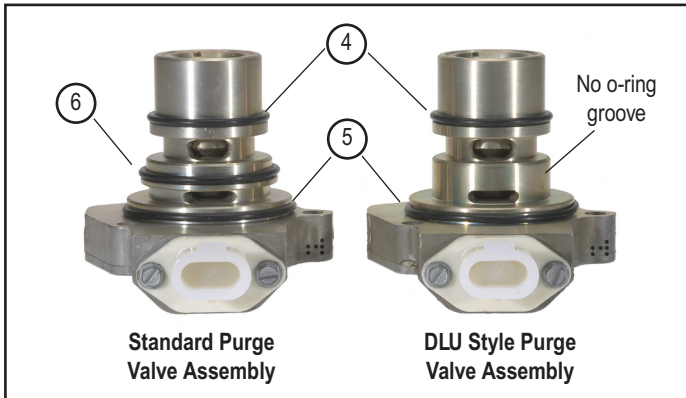

Figure 4 Standard and DLU Style Purge Valve Identification
3. Remove and discard the three 1/4" self-tapping screws(2) that secure the purge valve assembly to the end cover and the three flat washers (3), if present. Note: AD-9 air dryers with extended covers do not have flat washers (3).
4. Pull the purge valve assembly (1) out of the end cover. Discard o-rings (4, 5 and 6). O-rings (4) and/or (5) may be lodged in the end cover bores, be sure to remove these. Note: DLU style purge valves do not have an o-ring (5) or an o-ring groove in the purge valve housing. Refer to Figure 4.
5. Verify the purge valve assembly (1) contained in the kit is the same type as the one removed. See Figures 4 and 5 for types of purge valve assemblies. Once the purge valve assembly is verified, check with an authorized Bendix parts outlet for possible core value for the purge valve assembly before discarding.
o-ring grooves on the purge valve housing. Use care to not twist the o-rings. Note that DLU style purge valves do not use o-ring (6). Refer to Figure 4.
2. Lubricate the air dryer bore for the purge valve assembly (1). Important: Use only the lubricant (7) packaged with this kit.
5. Secure the purge valve assembly and/or extended exhaust cover to the end cover, using the three 1/4" self-tapping screws (2) and 1/4" washers (3), if applicable. The 1/4" washers (3) should not be used with the extended exhaust cover. Start all three screws by hand then torque to 85–125 in-lbs.